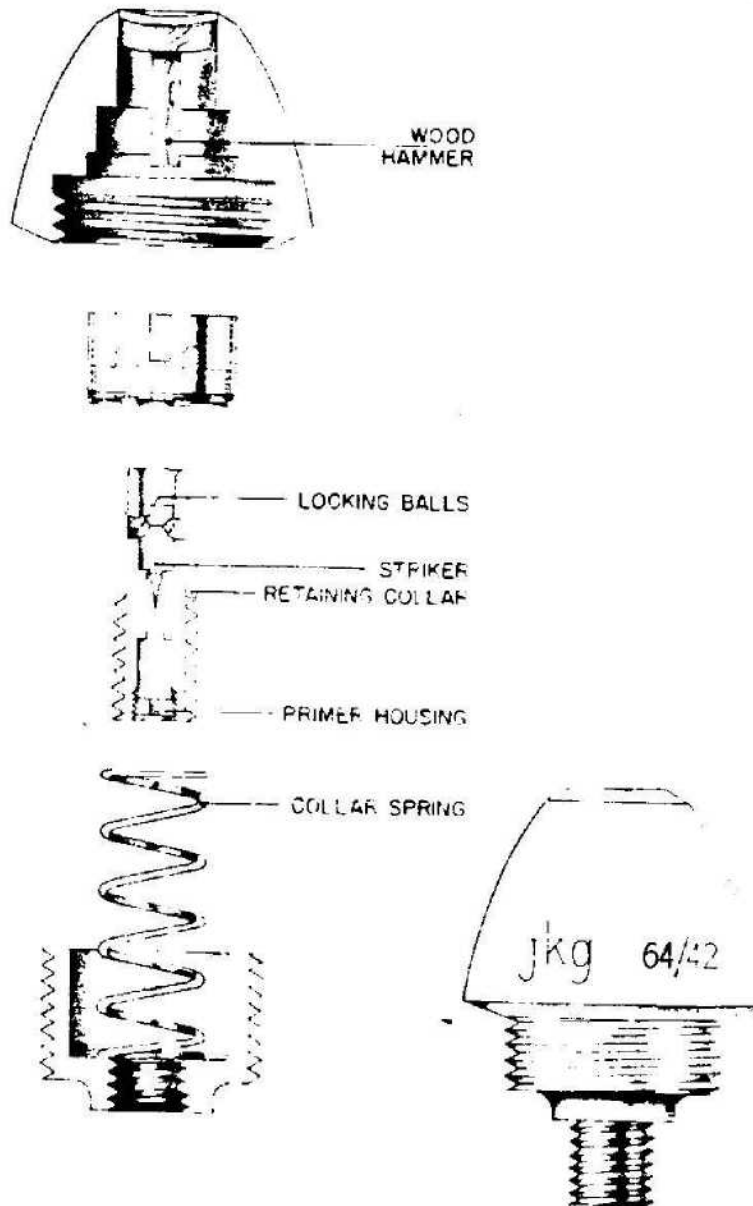

Figure 567—K. Z. 38
**EMPLOYMENT:** Mechanical Impact Nose Fuze for 40-mm Bofors Gun H. E. shell. (See fig. 567.)